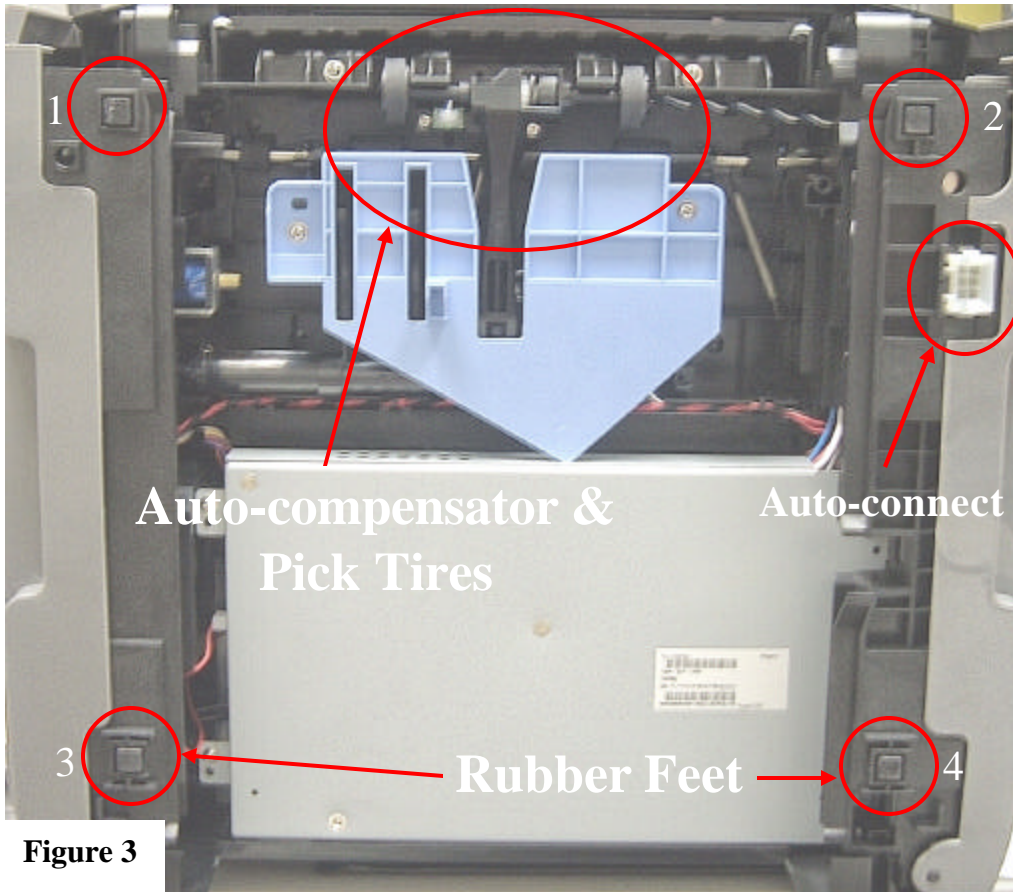

Figure 3
6. Gently flip the printer over to view the bottom (Figure 3).